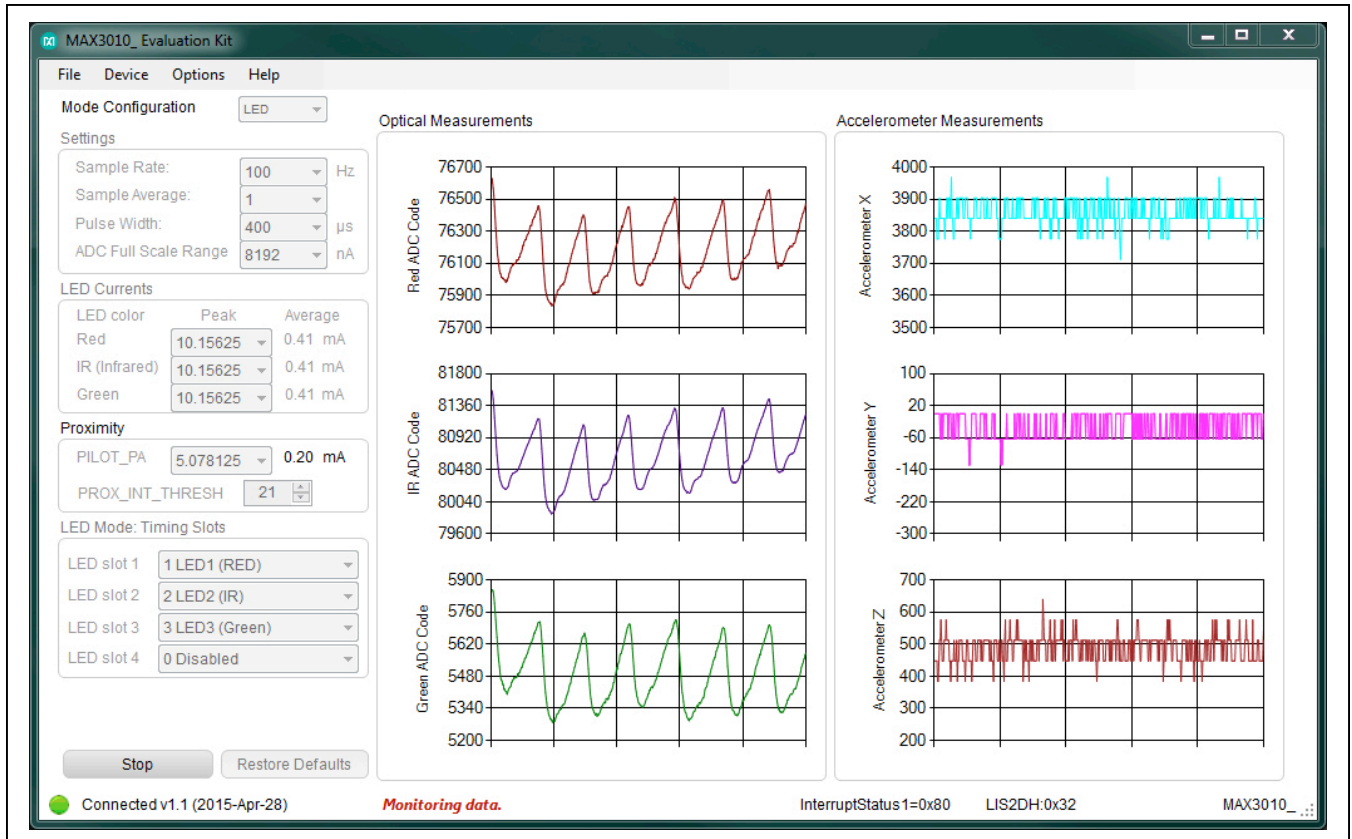
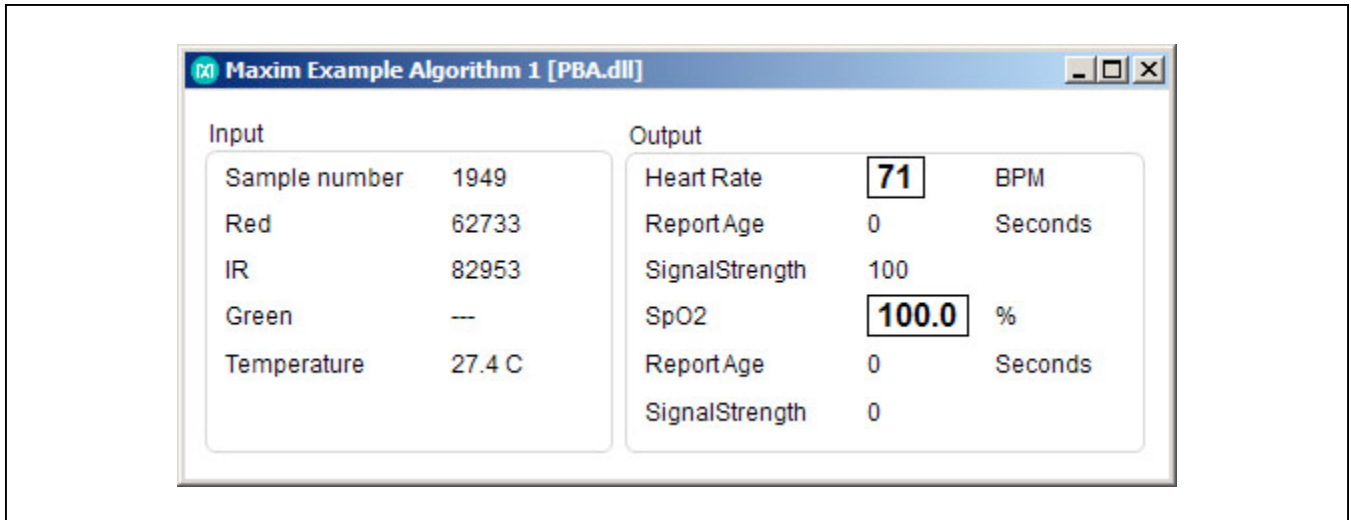
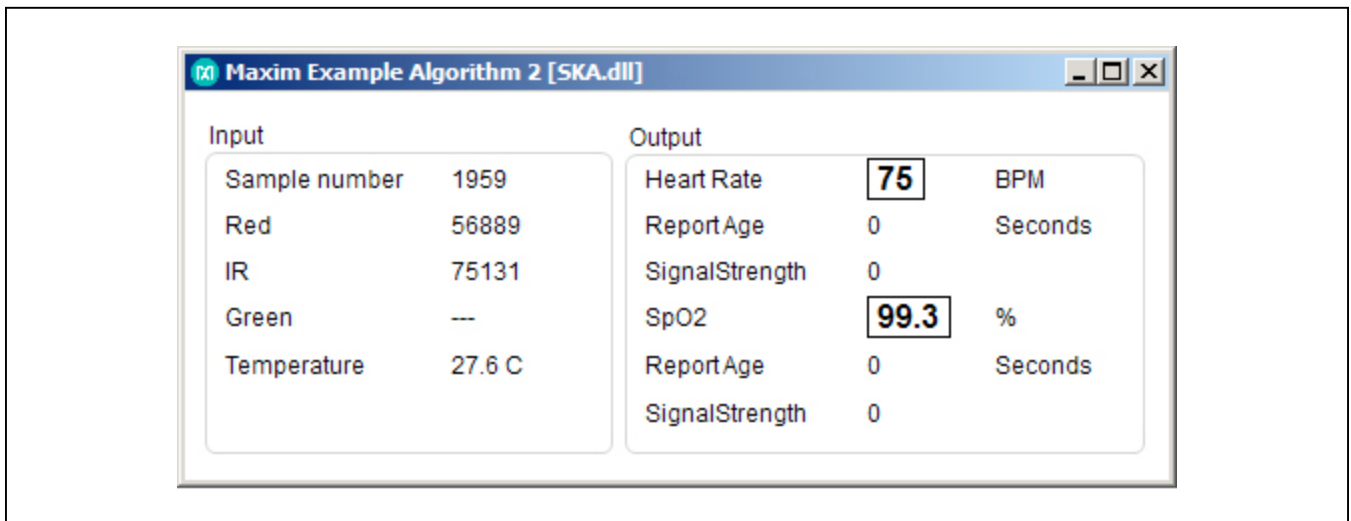

Figure 2. MAX30101 EV Kit Main Window (Sampling Data)
Figure 3. Maxim Example Algorithm 1 Window
Figure 4. Maxim Example Algorithm 2 Window
- 7) Place your finger in front of the MAX30101 (U4) of the EV kit and observe the **Measurement** graphs. See Figure 2. Example algorithm 1 and 2 are shown in separate windows (Figure 3 and Figure 4).
Figure 3 and Figure 4 are example algorithms to calculate heart rate and SpO₂. They are calculated using the raw ADC data from the LEDs.